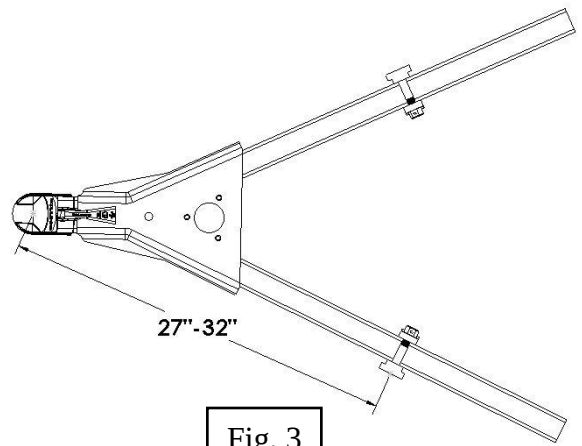
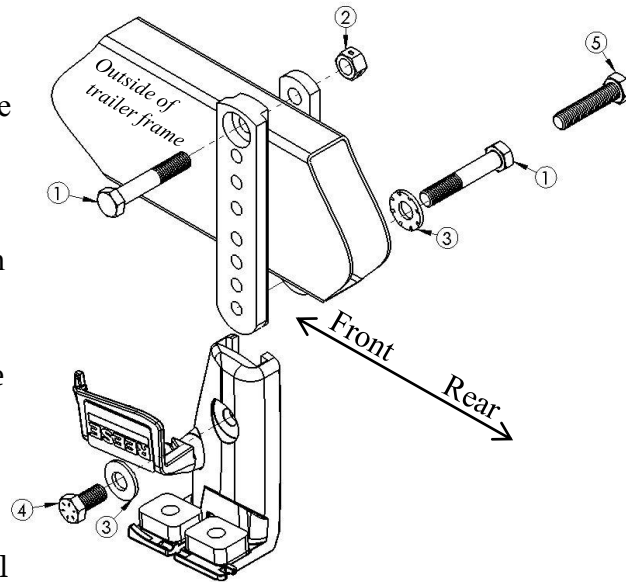

Fig. 3
Fig. 4
1. Use the measuring tape to locate a point 27"-32" along the A-Frame from the center of the coupler. Mark this location with a pencil on both sides of the A-Frame (See Fig. 3)
2. Insert a 3-1/2" long 5/8" bolt (1) through the large hole in the **T-Bar** and single hole in the **Clamping Bar**.
3. Secure with a 5/8" lock nut (2) and hand tighten.
4. Slide the **T-Bar** and **Clamping Bar** over the frame where the mark is located from step 1. The **T-Bar** must be located on the outside of the A-Frame with the large hole facing outward (See Fig. 4). Allow 1" of clearance on either side of the **T-Bar**.
5. Insert a second 5/8" bolt *from the inside* through a conical washer and the **Clamping Bar** and thread into the **T-Bar**. Use the highest holes not obstructed by the bottom of the frame (See Fig. 4).